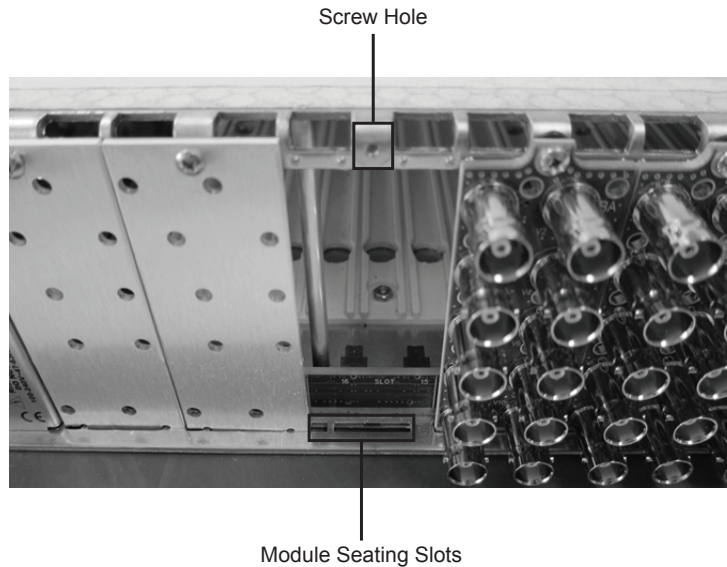

Figure 2.1 Rear Module Installation in an openGear Frame (MUX-8258 not shown)
3. Install the bottom of the Rear Module in the **Module Seating Slot** at the base of the frame’s back plane. (**Figure 2.1**)